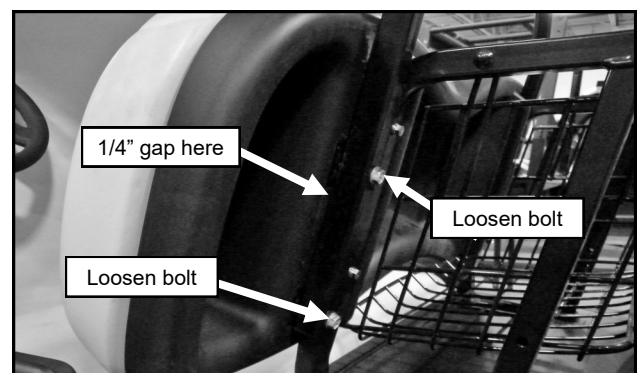

Fig. 1.4 (rear roof support - left side)
**1.4** Loosen hardware found on the back of the (2) rear roof supports, enough to have around 1/4" gap between the supports and seat back, per figure 1.4.